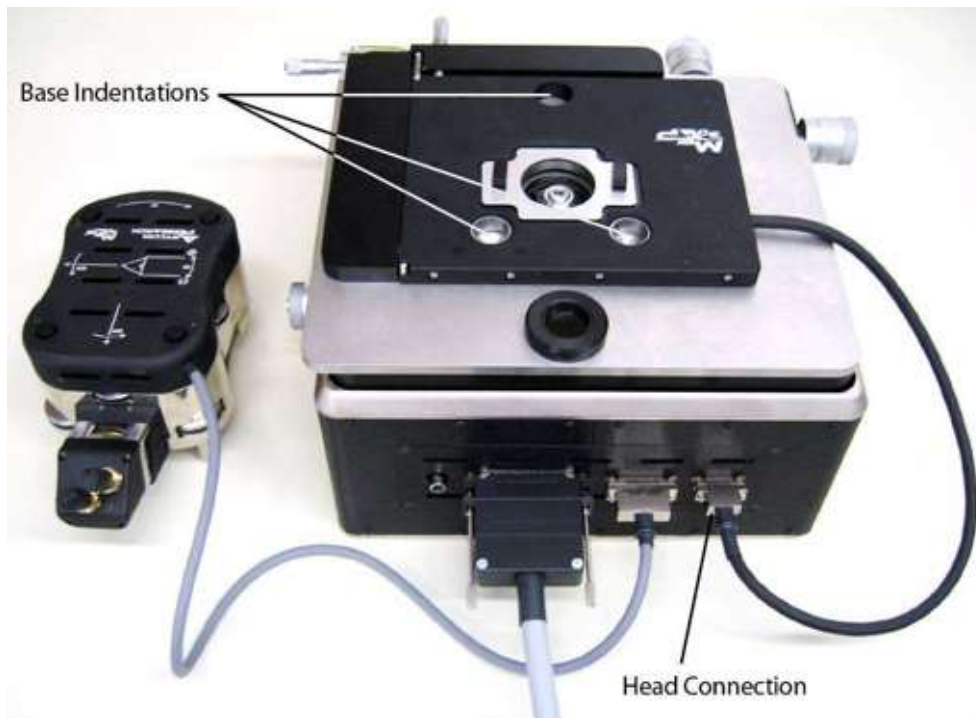

Figure 4.11 Head Installation and Connections
1. Connect the head cable to the scanner (See Figure 4.11).
2. Position the legs of the head over the corresponding indentations on the base (See Figure 4.11) and place the head.
3. Connect the cable from the head to the base (See Figure 4.11).